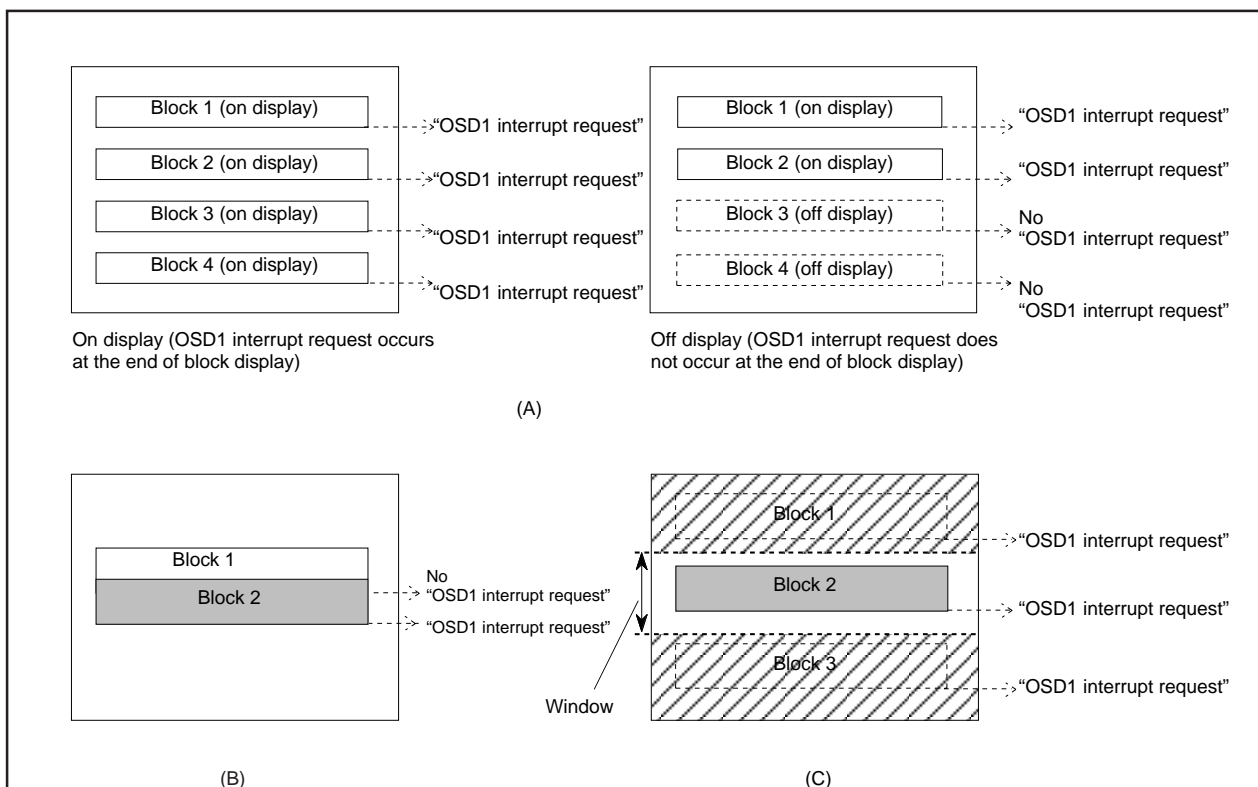

Figure 2.16.40 Note on occurrence of OSD1 interrupt
**2:** When another block display appears while one block is displayed, an OSD1 interrupt request occurs only once at the end of the another block display (refer to Figure 2.16.40 (B)).
**3:** On the screen setting window, an OSD1 interrupt occurs even at the end of the CC mode block (off display) out of window (refer to Figure 2.16.40 (C)).